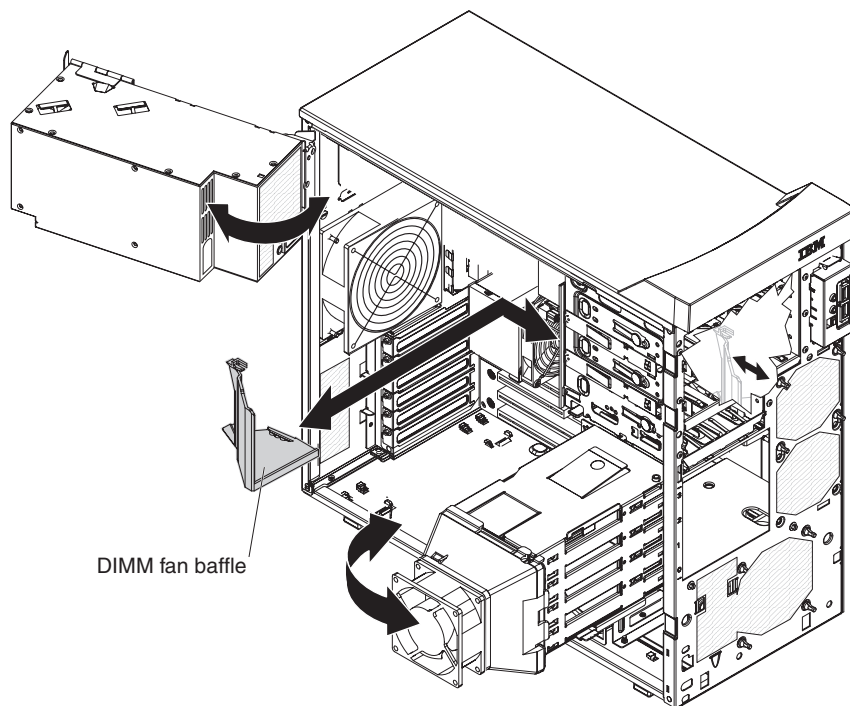

Figure 51. Installing the DIMM fan baffle
3. Slide the fan baffle into the fan baffle tab in the front of the chassis until it locks in place (see Figure 51).